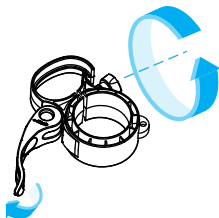

Figure 12
1. Pull the **Lever** and turn the **Knob** on the **Cable Management Clip** to loose the tension. (Figure 12)